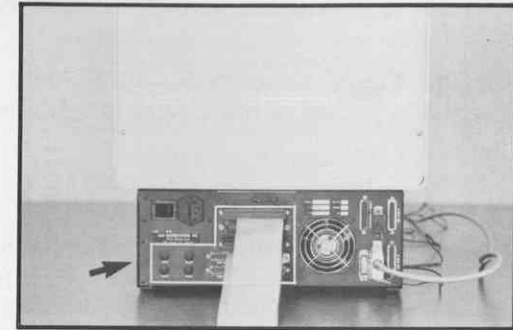

Figure 18 Disk/Tape Backplate
- 3.1** Systems which use a disk controller have a disk/tape backplate at the rear of the workstation, as shown in Figure 18.
IF YOUR SYSTEM HAS A BLANK DISK/TAPE BACKPLATE WITH NO CONNECTORS IN THE AREA SHOWN IN FIGURE 18, **SKIP DIRECTLY TO SECTION 5.**